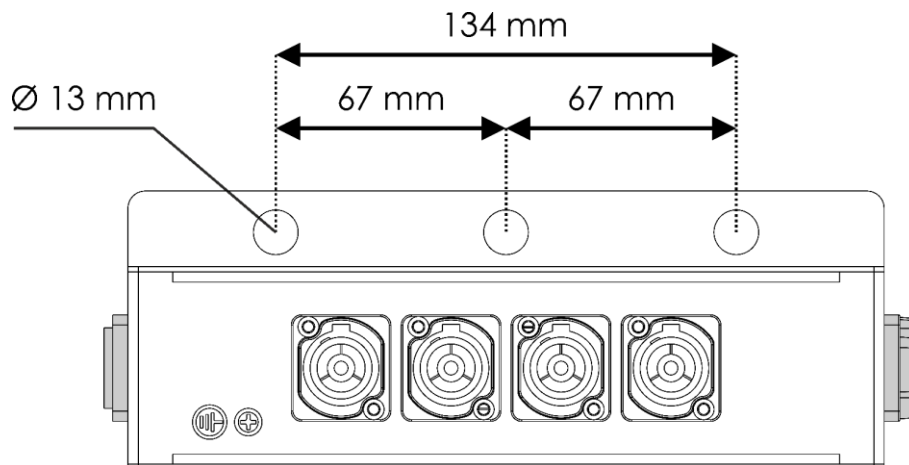

Fig. 04
- 01) Insert 3 screws into the **3 x mounting openings (07)** and tighten them to mount the device on a structure. See Fig. 04.